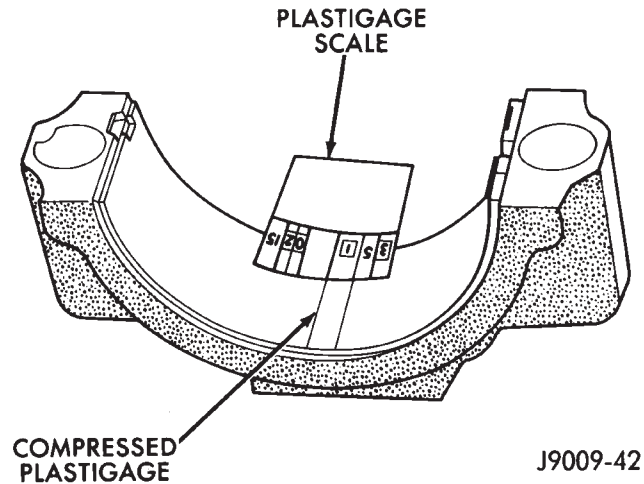

Fig. 17 Measuring Bearing Clearance with Plastigage
- (5) Install the lower bearing insert in the bearing cap. The lower insert must be dry. Place strip of Plastigage across full width of the lower insert at the center of bearing cap. Plastigage must not crumble in use. If brittle, obtain fresh stock.
- (6) Install bearing cap and connecting rod on the journal and tighten nuts to 45 N-m (33 ft. lbs.) torque. DO NOT rotate crankshaft. Plastigage will smear, resulting in inaccurate indication.
- (7) Remove the bearing cap and determine amount of bearing-to-journal clearance by measuring the width of compressed Plastigage (Fig. 17). Refer to Engine Specifications for the proper clearance. **Plastigage should indicate the same clearance across the entire width of the insert. If the clearance varies, it may be caused by either a**